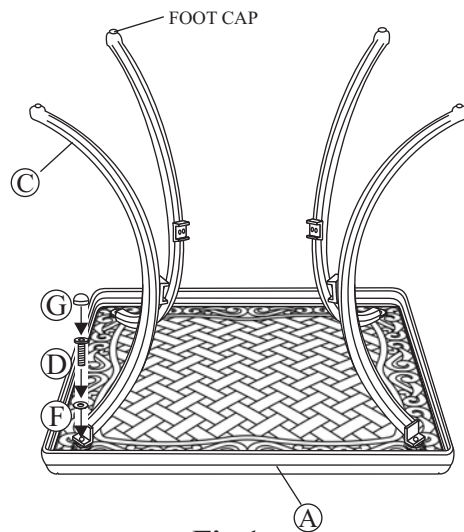

Fig.1
Step 2: Place the table top upside down on a flat, non-abrasive surface. Attach the table leg to the table rim by using a 1/4"x18 mm bolt and washer as shown in **Fig.1**. Guide the bolt through the hole in the table rim corner bracket and into the pre-drilled hole in the table leg. **Hand 2-3 turns tighten only.** Repeat for the other three legs.